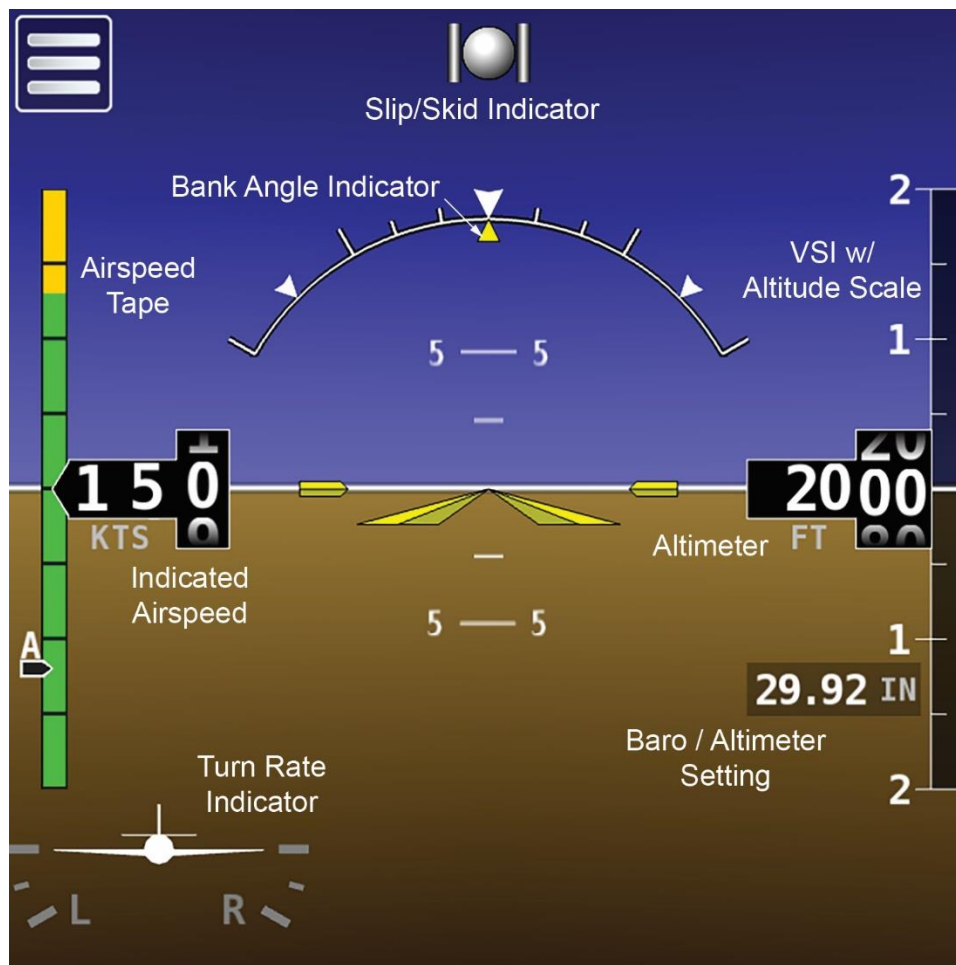

Figure 2: Flight Indications
The D30 provides the flight indications listed below. See Figure 2 for locations of the D30's flight indications
1. Touch Menu icon (see Figure 2). Main Menu is displayed.
1. Touch Barometer / Altimeter Setting indicator (see Figure 2). The Altimeter Setting tool appears.